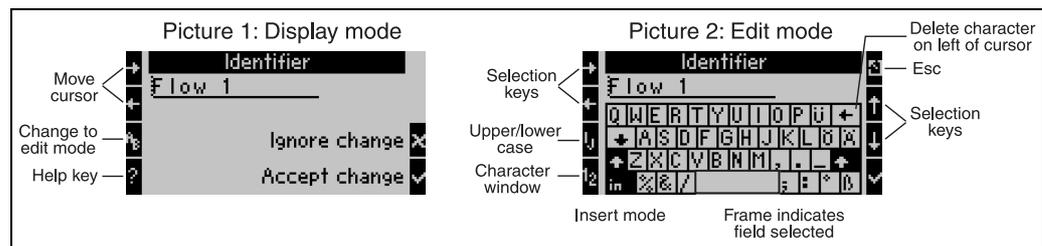

Fig. 16: Example: editing an identifier with the Palm keyboard
- Using the cursor keys, place the cursor in front of the character before which another character should be entered. If the entire text should be deleted and rewritten, move the cursor completely to the right. (see Fig. 16, graphic 1)
- Use the ij/IJ and $\frac{1}{2}$ key to select upper/lower case or numerals. (see Fig. 16, graphic 2)
- Use the cursors to select the key required and use the tick sign to confirm. If you want to delete text, select the key in the top right. (see Fig. 16, graphic 2)
- Press the Esc key to switch from the editing mode to the display mode and accept changes with the 'tick' key. (see Fig. 16, graphic 1)
- The cursor cannot be moved in the editing mode (see Fig. 16, graphic 2)! Use the Esc key to go to the previous window (see Fig. 16, graphic 1) to move the cursor to the character which should be changed. Then confirm the AB key again.